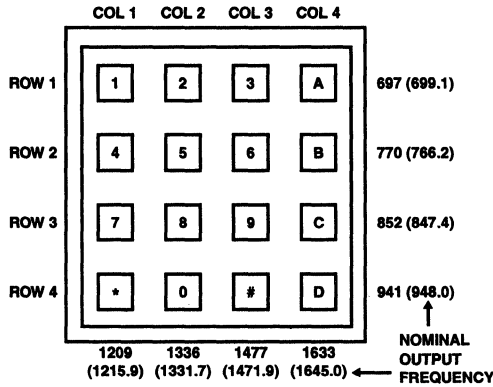

FIGURE 1. BELL AND NOMINAL OUTPUT FREQUENCIES (IN PARENTHESIS) FOR 3.579545MHz CRYSTAL
- Refer to Figure 1 for standard DTMF frequencies.